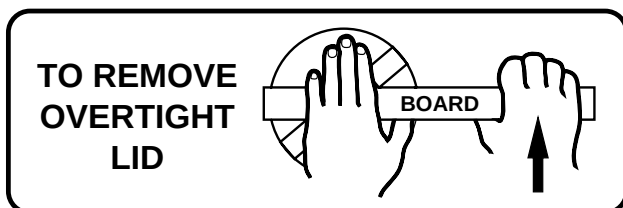

Figure 5 – Use a pry bar or board as shown to remove tight lid.
If pump is not in a flooded suction system, unscrew and remove trap cover (see Figure 5); fill trap and pump with water.
2. Remove trap cover and use *low pressure* air to blow accumulated water from the piping system. Use a pry bar or board to remove trap covers that have been overtightened or have taken a set and cannot be removed by hand. Lugs have been provided on the trap lid to use a lever or pry bar for loosening (see Figure 5). *Do not use high pressure air to purge system.*